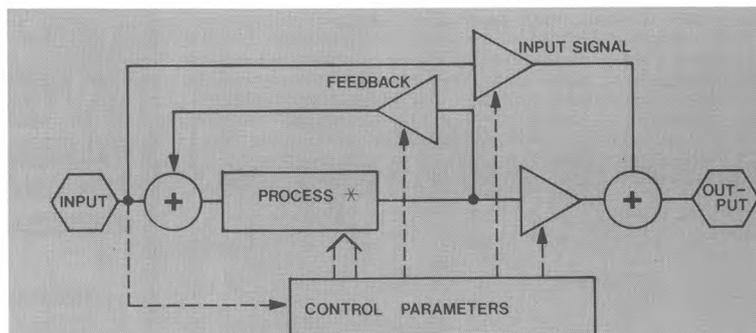

Fig.1
**General format of frequency domain modifiers.** Fortunately, virtually all of these modifiers follow a similar format. Figure 1 shows a generalized system for a frequency domain modifier, which includes two important elements: the signal processing elements, and the control elements. Note that the input signal can go to three places: